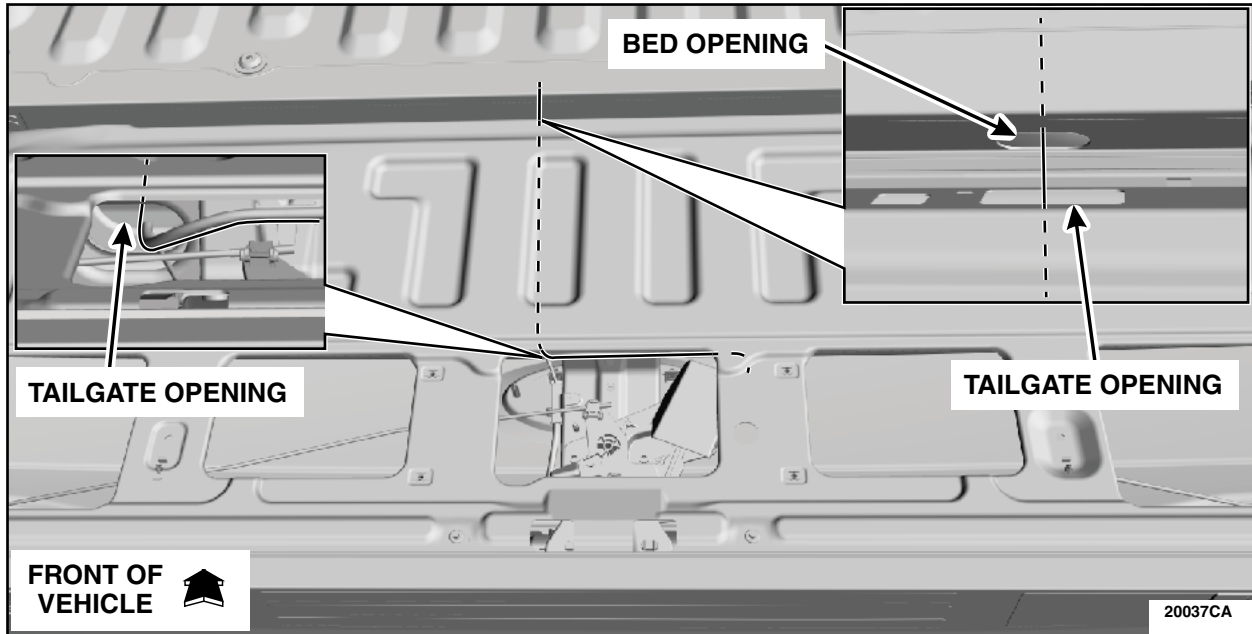

FIGURE 50
69. Using a straightened coat hanger, tape the end of the Tailgate Jumper Harness Wire without a terminal to one end of the coat hanger. Route the wire and coat hanger on the Left Hand (LH) side of the tailgate latch control assembly and through the opening in the center bottom of the tailgate. Continue to pass through the opening in the bed and down through the bottom of the vehicle. See Figure 50.